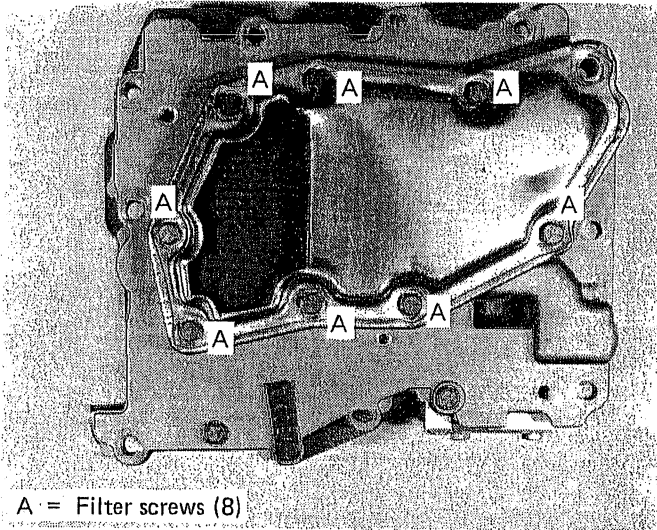

FIGURE 4
STEP 6. Turn the valve body over and remove the filter screws. (See Fig. 4) Remove filter and discard it. Note: These screws are long.